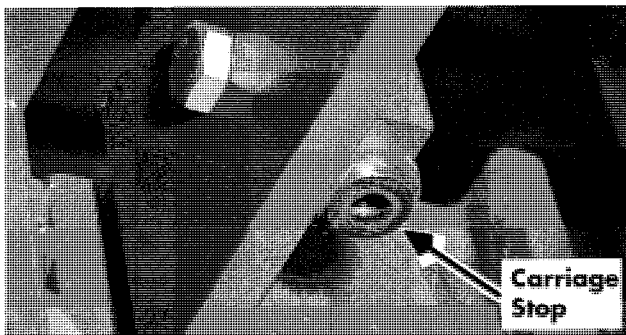

Figure 7-117. Inner mast, Top Corner
10. Install carriage stops at top of inner mast. See Figure 7-117.